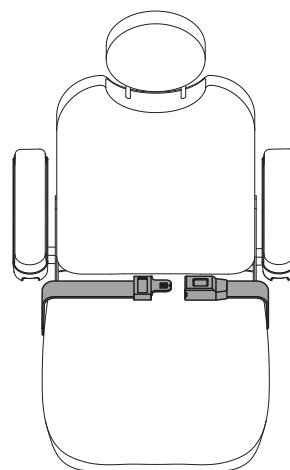

Figure 11. Positioning Belt Adjustment
Your power chair may be equipped with a positioning belt that can be adjusted for operator comfort. **See figure 11.** The positioning belt is designed to support the operator so that he/she does not slide down or forward in the seat. The positioning belt is not designed for use as a restraining device.
1. Once seated, insert the metal tab on one side of the belt into the plastic housing on the opposite side until you hear a click. **See figure 11.**